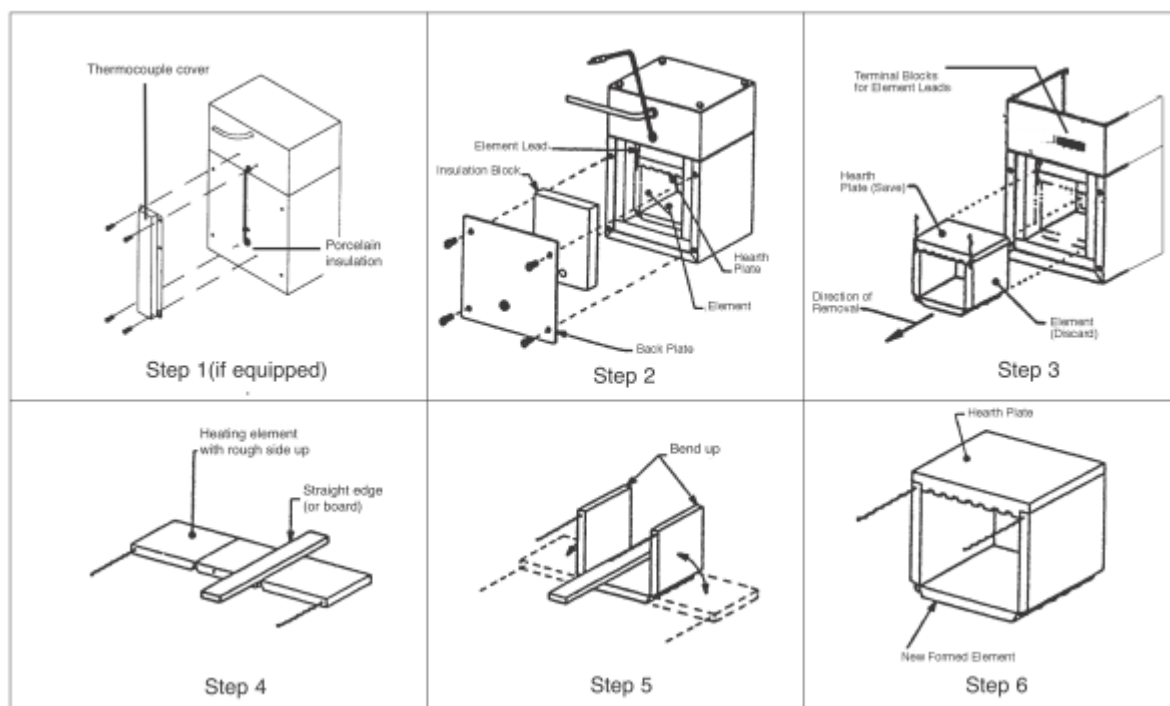

Figure 3: Replacement of a Heating Element
1. Set the furnace on its top. (See Figure 3). Remove thermocouple cover (If equipped).